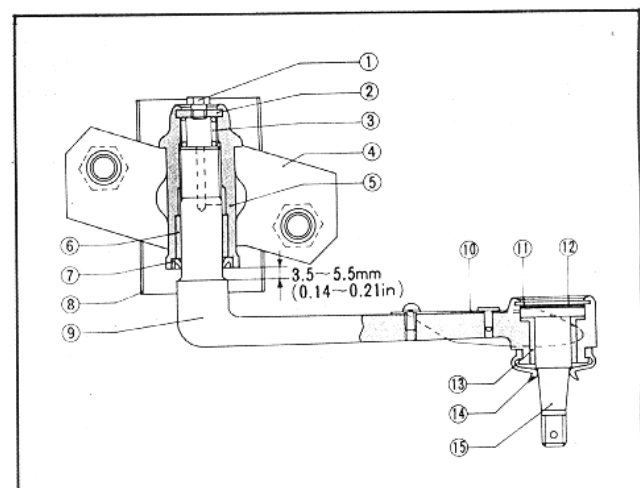

Fig. 10-24 Idler arm cross section
- a) Check the clearance between the idler arm edge and the idler housing end as shown in Fig. 10-24. The clearance should be $3.5 \sim 5.5 \text{ mm}$ ($0.14 \sim 0.21 \text{ in}$).